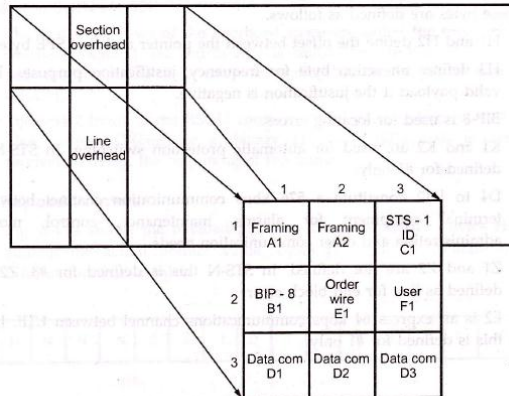

Fig. 8.4.12 STS-1 section overhead
- Fig. 8.4.12 shows STS-1 section overhead.